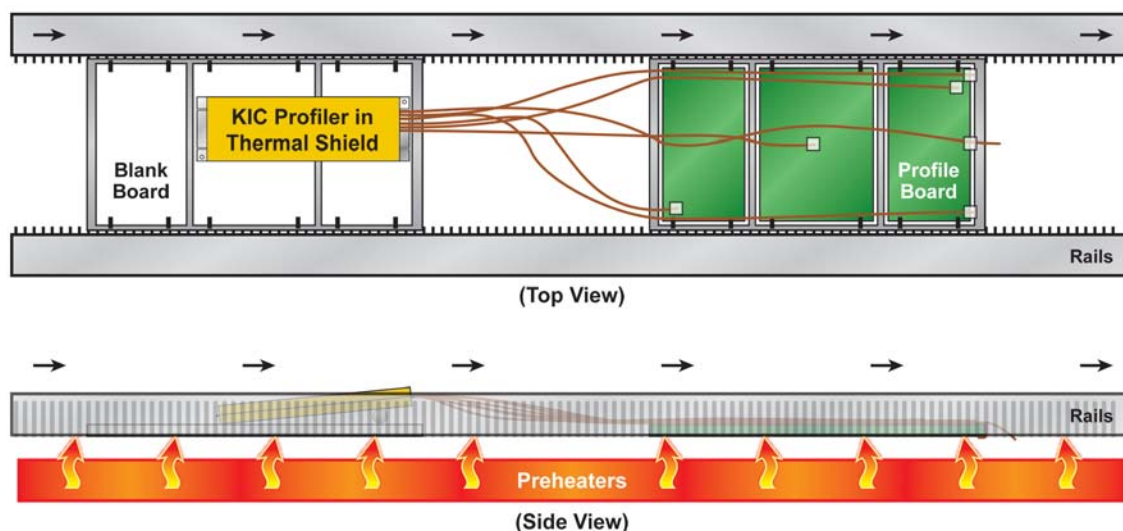

Figure 88: Profiling Wave Solder Using a KIC Profiler
- During the profile, you can run the profiler in front or behind the profile board. See Figure 88.
- Run the thermal shield upside-down to prevent any solder from contacting the profiler. See Figure 88.
- It is helpful to raise the profiler thermal shield at least 1/8" to 1/4" off the carrier board/palette in order to prevent any liquid solder from entering the thermal shield. See Figure 88.